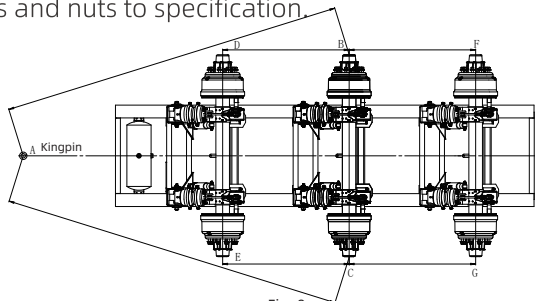

Fig. 9
(10) Pre-tighten the pivot bolt nut until the washer can still be rotated.
(11) Rotate the eccentric bushing (Fig. 9) to ensure  $AB=AC\pm 2\text{mm}$ , and tighten the 2nd axle pivot bolt nut to specification. Refer to the suspension components exploded view and torque table on Pages 07-08.
(12) Adjust the front and rear wheelbases,  $DB=EC\pm 1\text{mm}$ ,  $BF=CG\pm 1\text{mm}$  (ensure diagonals  $DC=BE\pm 1\text{mm}$ ;  $BF=CE\pm 1\text{mm}$ ). After wheelbase fine-tuning is completed, lock the 1st and 3rd axle pivot bolt nuts to specification.
(13) When the air suspension is installed at the FH value, tighten the shock absorber bolts and nuts to specification.